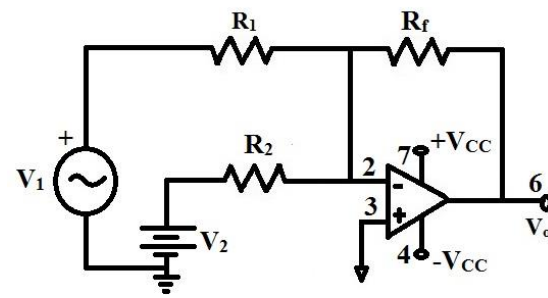

Fig. 5.3: Inverting Summing amplifier
1. Rig up the circuit as shown in Fig. 5.3.